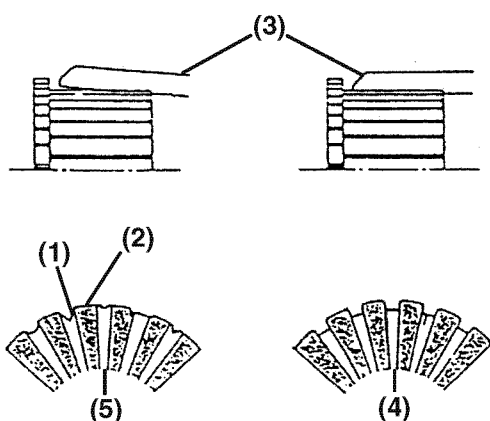

Figure 11-14
Measure the depth of the insulating material (Figure 11-14, (1)) between commutator segments (Figure 11-14, (2)). If the depth measures less than the limit, use a hacksaw blade (Figure 11-14, (3)) to remove the insulating material until the depth is within the limit.
A normal commutator condition is indicated in (Figure 11-14, (4)). An abnormal commutator condition is indicated in (Figure 11-14, (5)).